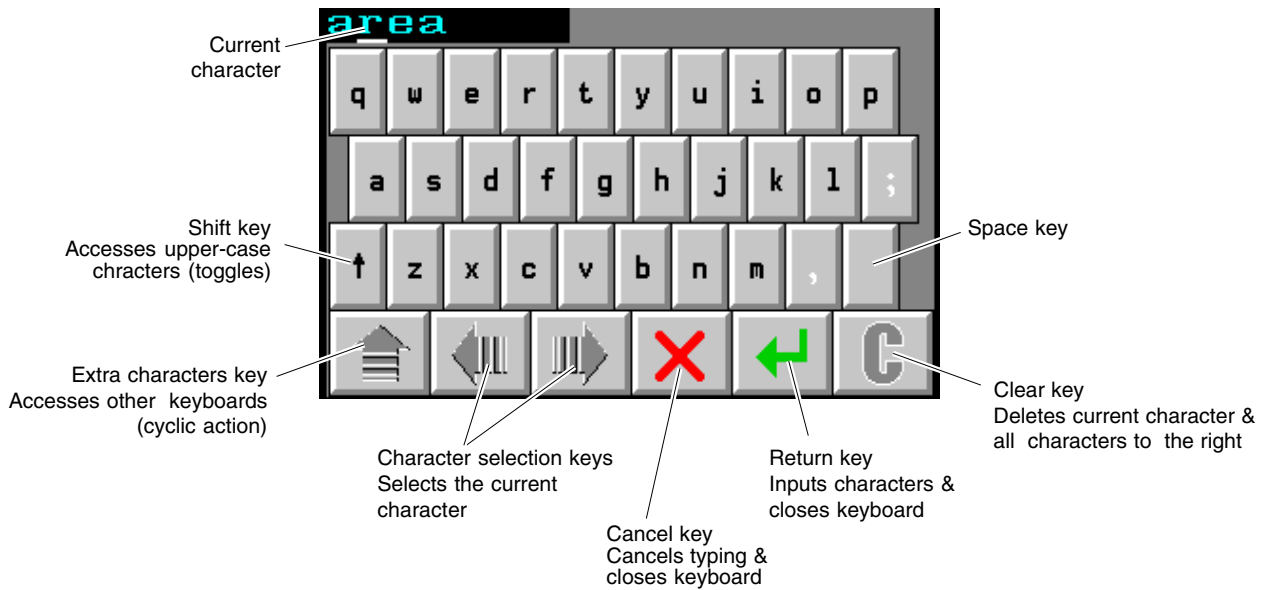

Figure 1-1 Standard keyboard
Popup keyboards appear whenever you have to type in passwords, filenames, LIN block field values, etc. Figure 1-1 summarises how to use them.
*Note* Press the **Extra Characters** key (Figure 1-1) then the **Shift** key to get to the asterisk character (and other symbols).